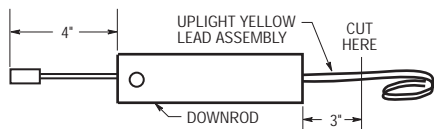

Figure 15
- 4. Push the upright yellow lead assembly connector through the downrod (Figure 15) until it extends about 4".